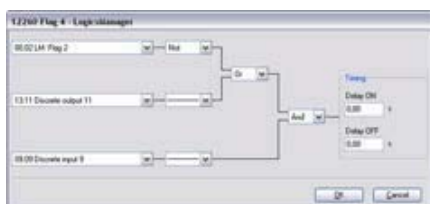

Fig. 194: LogicsManager function "Flag 4"
5. ➔ Configure the LogicsManager function "Flag 4" as shown in (Fig. 194).